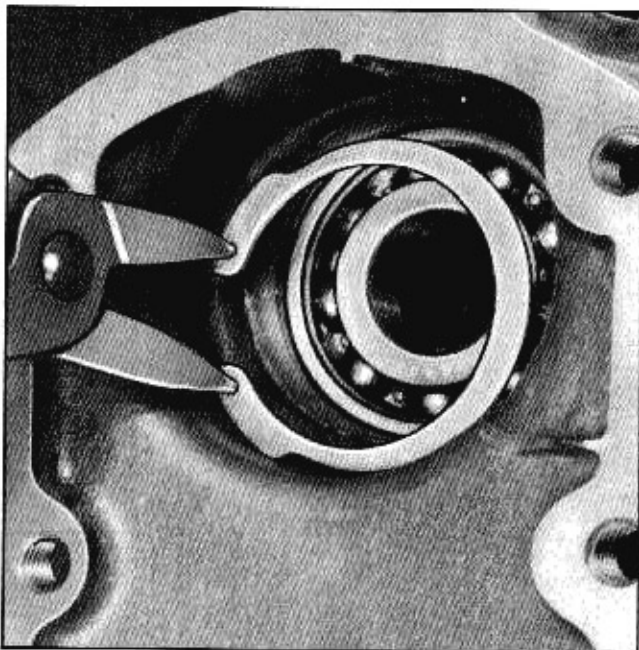

Fig. 7-16 Removing Retaining Ring
2. Remove bearing retainer ring (Fig. 7-16).